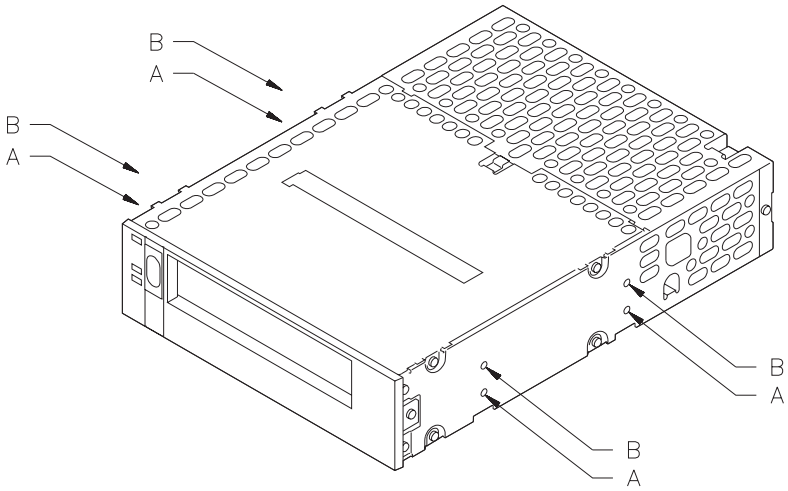

Figure 14 Mounting holes on the sides of the tape drive
The main housing of the tape drive includes three sets of mounting holes (two sets on the sides and one set on the bottom, as shown in Figures 14 and 15) to allow for a number of mounting positions. These mounting holes accommodate M3 5 6 mm screws. Refer to the *EXB-8205 and EXB-8505 Product Specification* for detailed information about the spacing of these mounting holes.
- You must use at least four mounting holes to secure the tape drive. It is highly recommended that you use the four holes from only one set ("A," "B," or "C," as shown in Figures 14 and 15). Combinations of mounting holes from different sets may lead to distortion of the frame.